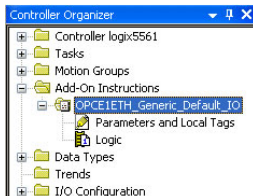

Figure 91: Generic Default I/O AOI
- 2) Right click on "Add-On Instructions" in the controller organizer view and select "Import.Add-On Instruction". Browse and import the generic default I/O AOI. Refer to Figure 91.